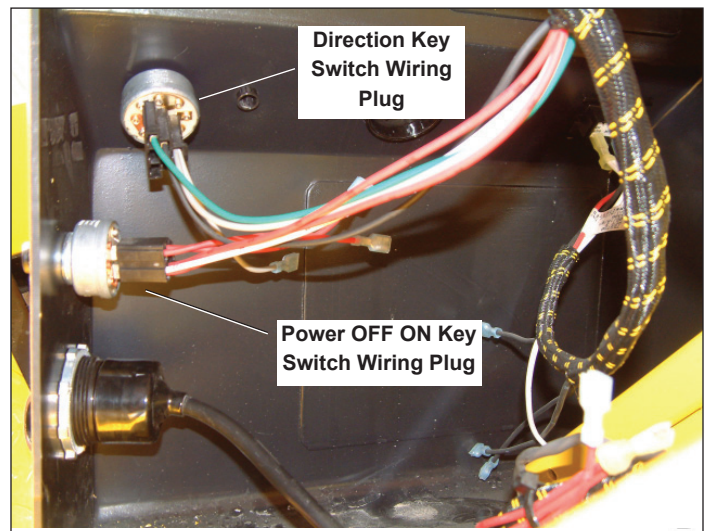

Figure 8-10. Directional Key Switch Wiring
2. Remove wires from back of directional key switch (Figure 8-10).
4. Reconnect wires to back of key switch (Figure 8-10).
2. Remove wires from back of power key switch (Figure 8-10).